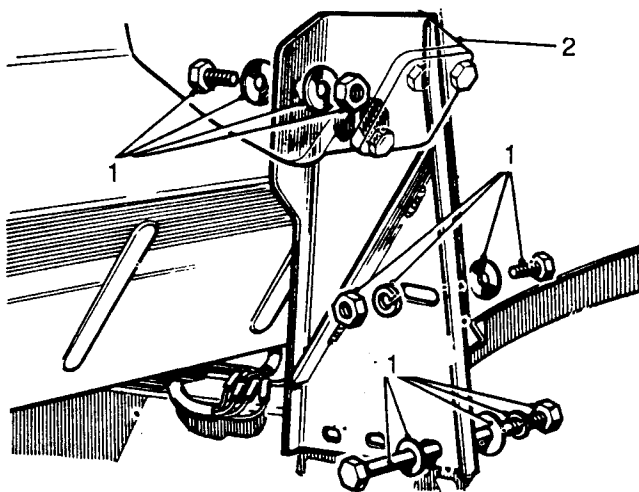

Fig L4.10
(13) Refer to Fig L4.10. Remove the fixings (1), steering box support bracket to toe box, wing valance and chassis.
(14) Withdraw the steering column and box assembly (2) complete with attached brackets from beneath the front wing.